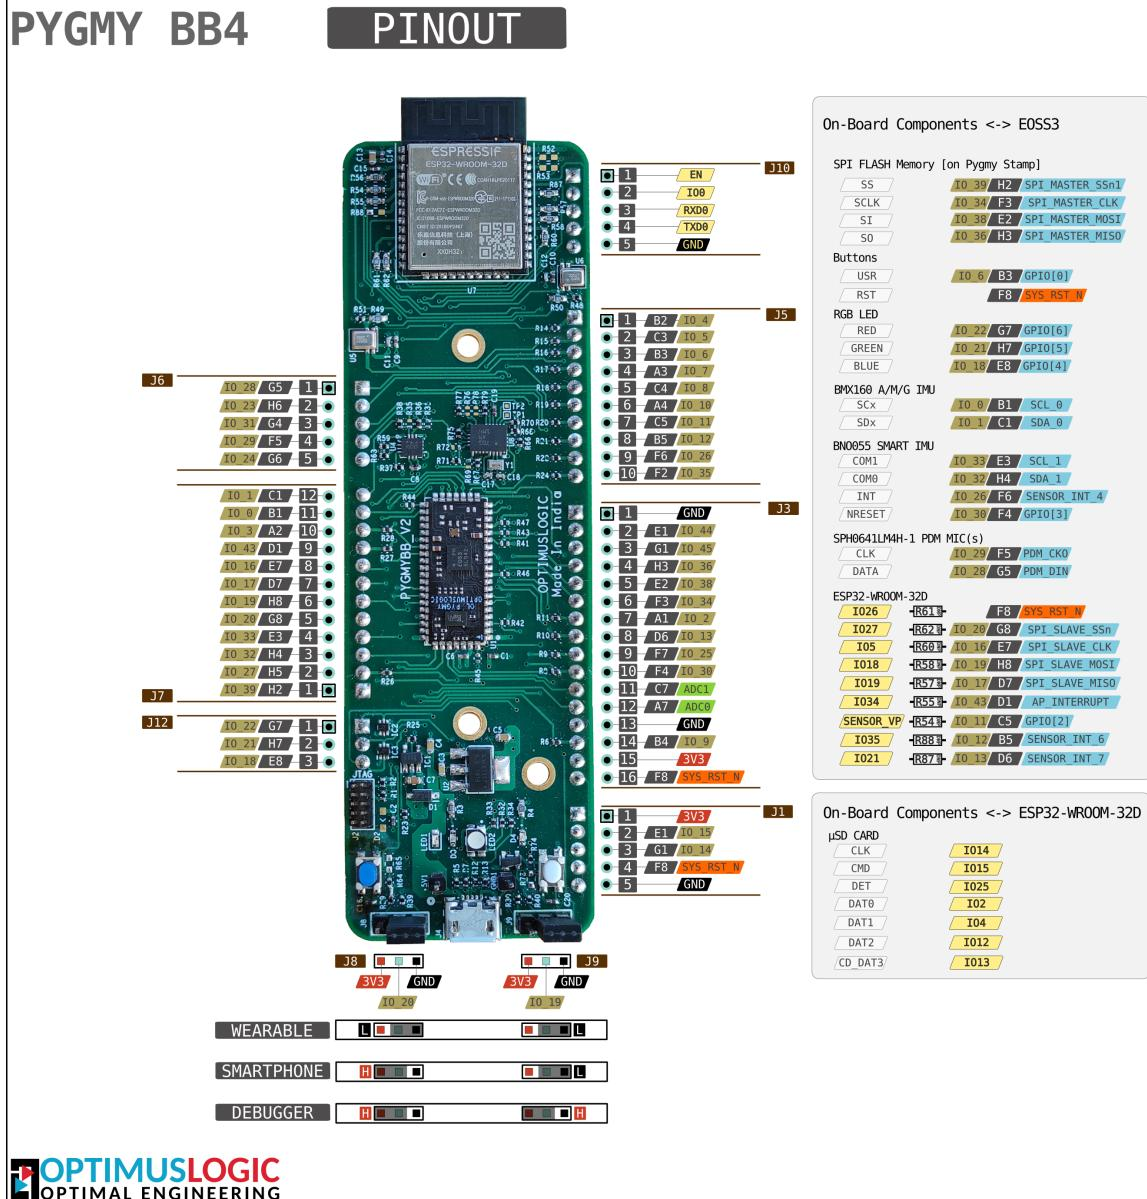

Figure 10.1.3.5.1: Pin Diagram
10.1.3.5. Using Table 10.1.3.5.1 and Fig. 10.1.3.5.1, use an input pin to control the onboard LED.